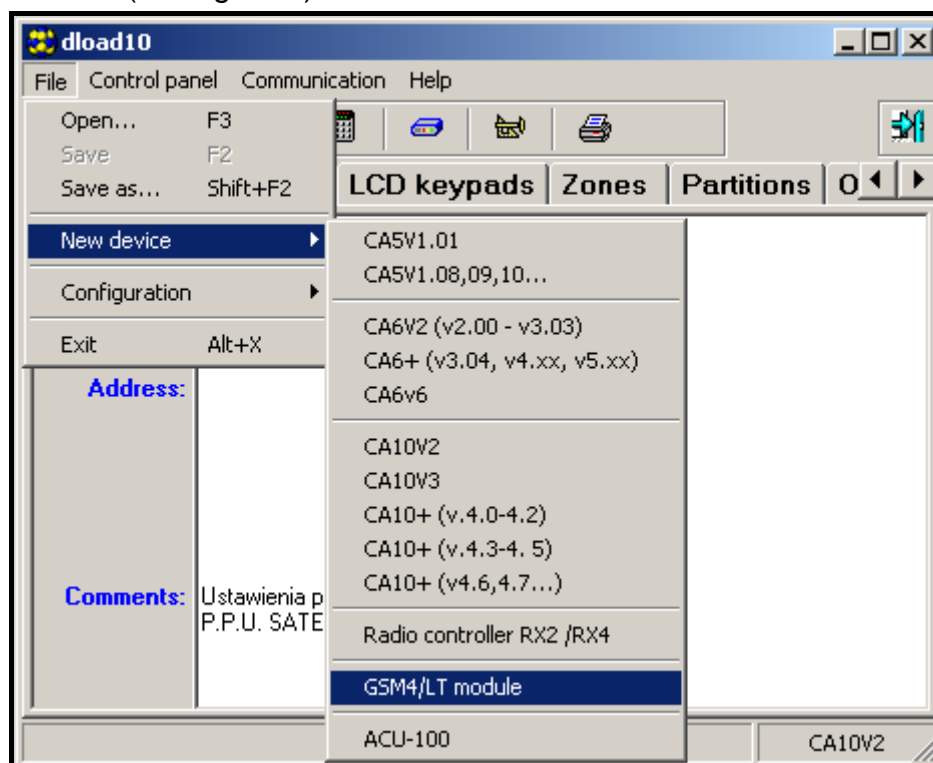

Figure 9.
2. Open the window with module data by selecting **File→New device→GSM4/LT module** in the program menu (see figure 9).